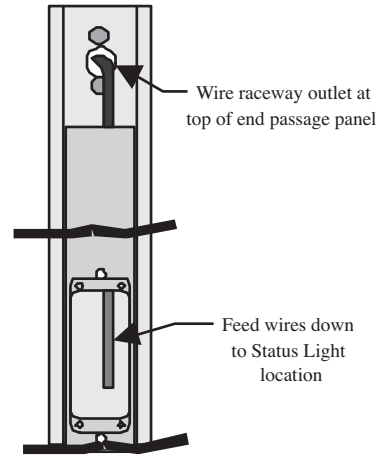

Figure 22
- Push cable out of End Passageway Panel and feed down to Status Light location as shown in **Figure 22**.